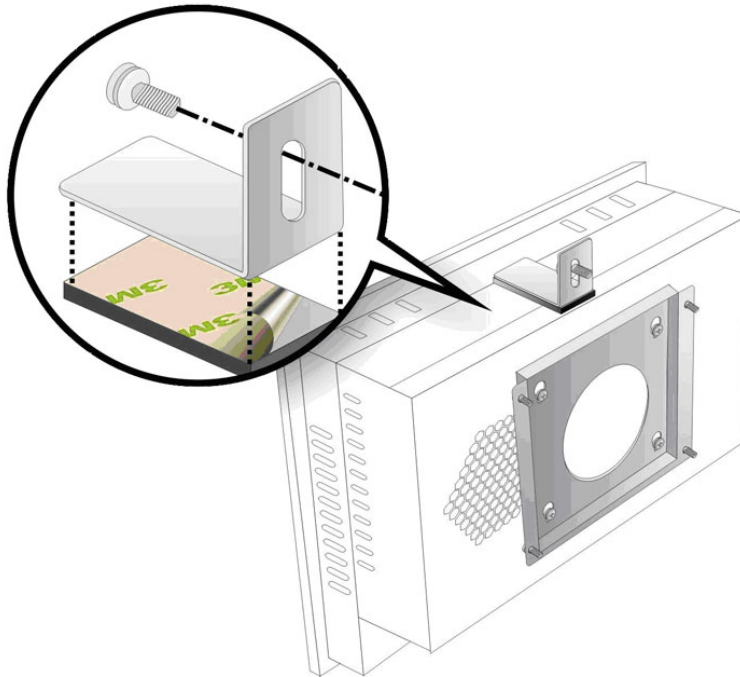

Figure 3-10: Secure the Chassis
Step 8: Secure the panel PC with the wall-mounting kit. To do this, stick the protective cushion to the wall-mounting kit first. Then, put the wall-mounting kit on the top panel of the panel PC. Carefully mark the location of the wall-mounting kit screw holes on the wall. Drill a pilot hole at the marked location on the wall. Secure the wall-mounting kit to the wall by inserting a retention screw into the pilot hole on the wall (**Figure 3-10**). This step is to avoid the panel PC being pushed apart from the wall-mounting bracket accidentally.